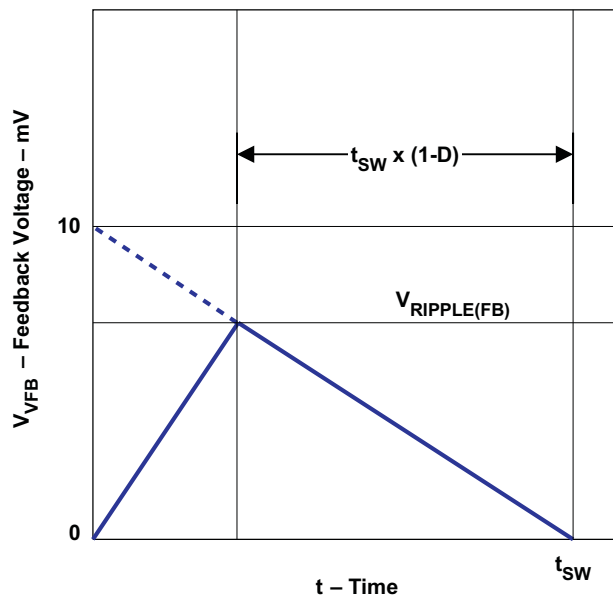

Figure 18. Ripple Voltage Down Slope
- the output ripple down slope rate is 10 mV/ t_{SW} in terms of VFB terminal voltage as shown in Figure 18